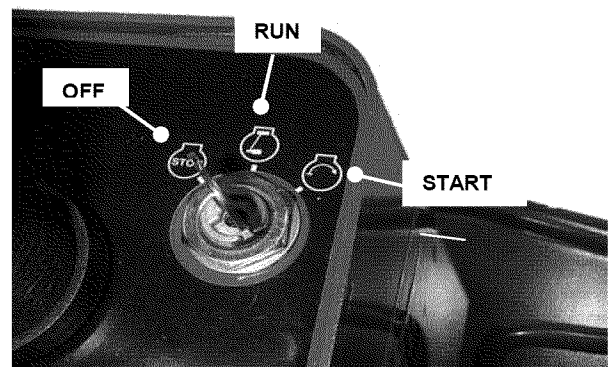

FIGURE 2.6A
6. Turn key to the "START" position until engine starts. See Figure 2.6A. **NOTE:** If after 5 seconds of cranking, the engine does not start, release the key. Make sure the clutch/brake pedal is fully depressed and pivoted in the locked position. Try starting engine again after waiting for approximately 20 seconds.